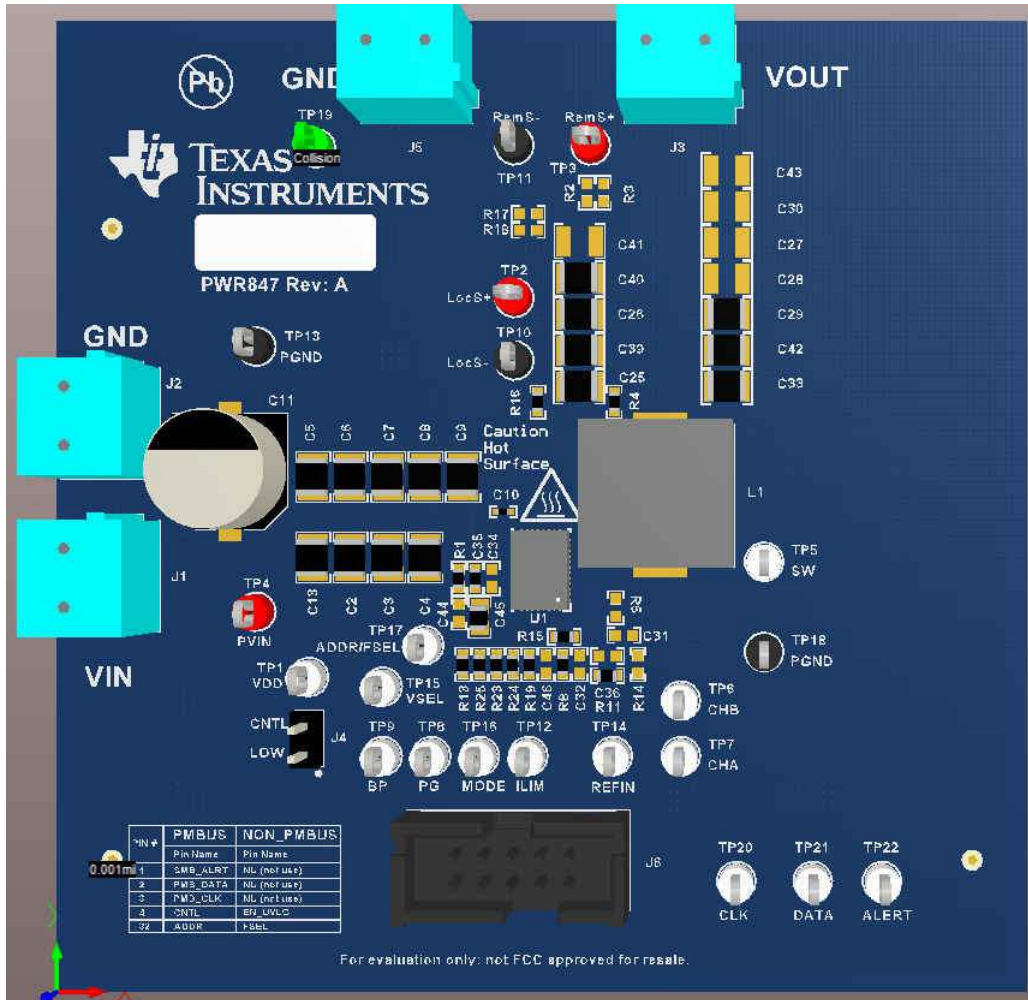

Figure 7-1. PWR-847EVM Overview
**Multimeters:** It is recommended to use two separate multimeters Figure 7-1. One meter is used to measure  $V_{IN}$  and one to measure  $V_{OUT}$ .
**Output Load:** A variable electronic load is recommended for testing Figure 7-1. It must be capable of 25 A at voltages as low as 0.6 V.
Figure 7-1 and Figure 7-2 illustrate the PWR-847EVM overview, tip and barrel measurement.
1. Connect VOUT to J3 and VOUT\_GND to J5 Figure 7-1.
3. Connect VIN to J1 and VIN\_GND to J2 Figure 7-1.